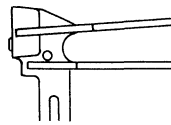

Figure 10. Twisting the Typehead
3. If a typebar does not print evenly on both the right and left sides, it will be necessary to twist the head of the bar with one type wrench while holding the throat of the bar with another tool (Figure 10). The procedure will also move the type impression to the right or left.